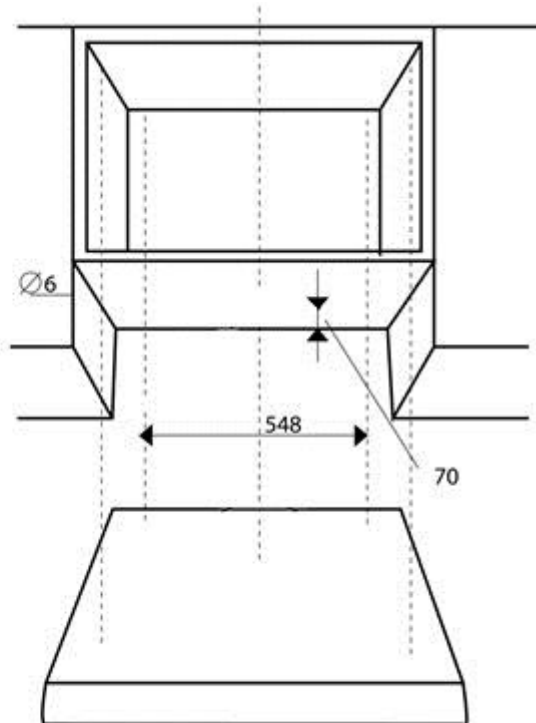

FIG . 6
2. Mark 4 points for the holes in the cabinet, respecting the distances indicated (Fig. 6), drill 4 holes of 6 mm in diameter in the cabinet.
3. Push the extractor against the cabinet and insert the 4 screws (5) that operate from the inside of the cabinet. Tighten the screws completely.
**IMPORTANT:** The carbon filter must be installed in the extractors of the filter version. The two exit points of the extractor must be blocked with the air outlet covers (9).
1. Mark 4 points for the holes in the cabinet, respecting the indicated distances (fig.6). Drill 4 holes of 6 mm diameter in the cabinet.
2. Push the extractor against the cabinet and insert the 4 screws (5) that operate from inside the cabinet. Tighten the screws completely.